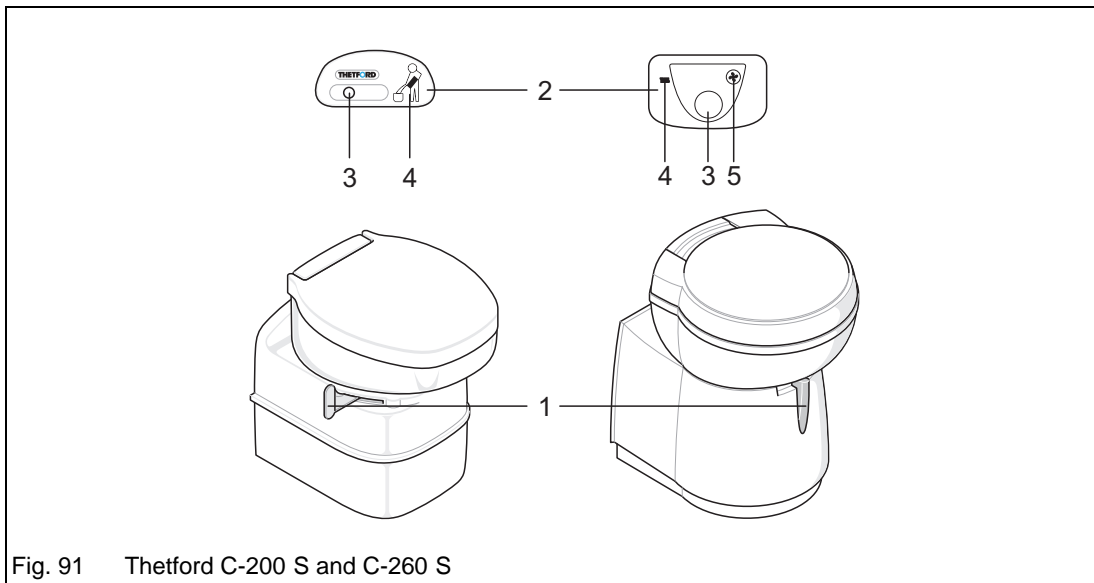

Fig. 91 Thetford C-200 S and C-260 S
- ➔ Before flushing, use the lever (Fig. 91/1) to open the valve blade.
- ➔ To activate the control panel, press the flush button (Fig. 91/3) once.
- ➔ Push the lever (Fig. 91/1) to the side if the valve blade is still closed.
- ➔ Flush the toilet (Fig. 91/3) by pressing the flush button for several seconds (if necessary, reactivate the control panel (Fig. 91/2)).
- ➔ Close the valve blade with the lever (Fig. 91/1) after flushing.
The cassette (Fig. 92/1) has a capacity of approx. 17 l and should be emptied when the level indicator (Fig. 91/4) lights. Do not allow the cassette to become overfilled.
The cassette (Fig. 93/1) has a capacity of 18 l and should be emptied when the level indicator (Fig. 91/4) lights. Do not allow the cassette to become overfilled.
- ➔ Close the valve blade (Fig. 91/1) in the toilet compartment.